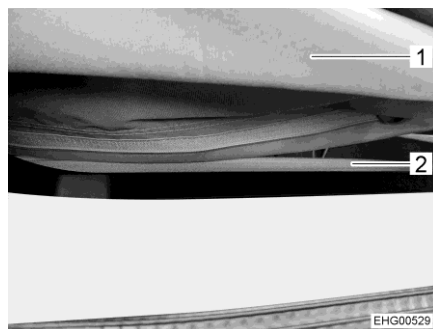

Fig. 49 Zip
- Fully open the zip (Fig. 49,2) on the underside of the bellows (Fig. 49,1).